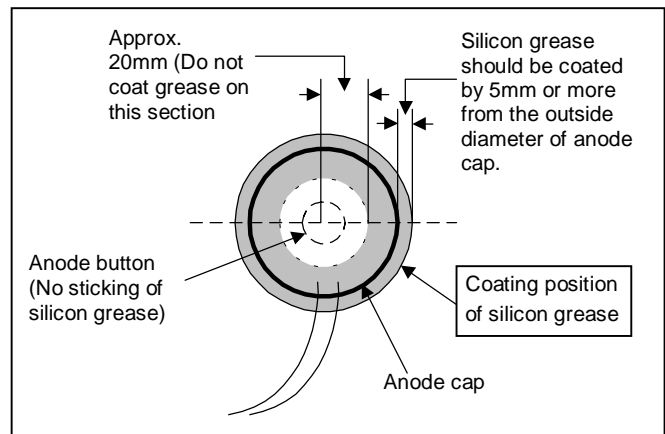

Fig. 7
- Coat silicon grease on the section around the anode button. At this time, take care so that any silicon greases dose not sticks to the anode button. (Fig.7)